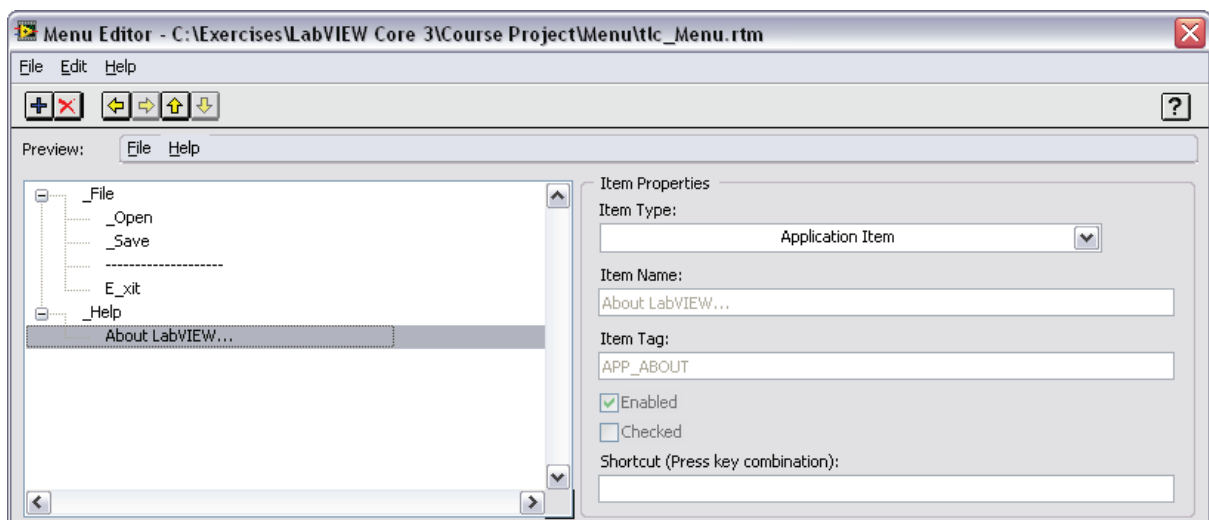

Figure 10-2. Run-Time Menu Editor
8. Modify the TLC Main VI so the run-time menu contains **Help»About LabVIEW**. When the user selects **Help»About** in the stand-alone application, the **About** dialog box displays. Figure 10-2 shows the completed Run-Time Menu Editor.
- ☐ Add the Help menu item by adding a User Item for Help, with the **Item Name** set to `_Help` and the **Item Tag** set to `Help`. Use the arrow buttons to move the entry below the other entries and in line with **File**, as shown in Figure 10-2.